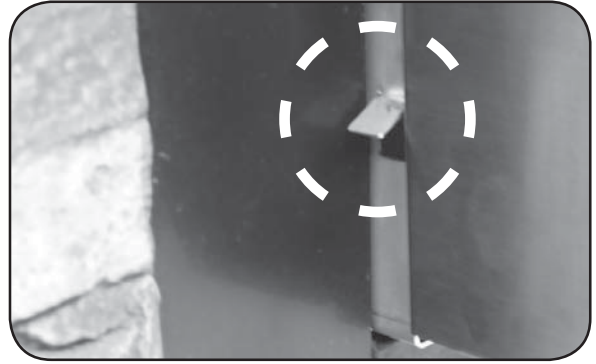
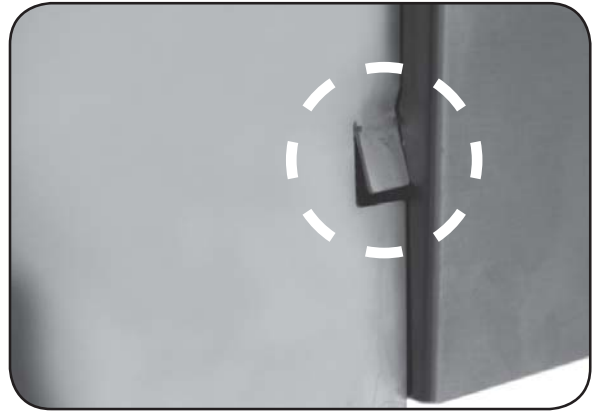

Fig. 16-1 Tab may interfere when sliding in unit
Fig. 16-2 Tab slightly bent in for clearance
**Note:** Each side of the unit has a tab just behind the control panel. These tabs prevent the control panel from moving inward. If the tabs interfere with the unit sliding in (see Fig. 16-1), use pliers to bend them inward so that they clear the enclosure sides. Leave the tabs slightly out to ensure they still keep the control panel from moving inward (see Fig. 16-2).